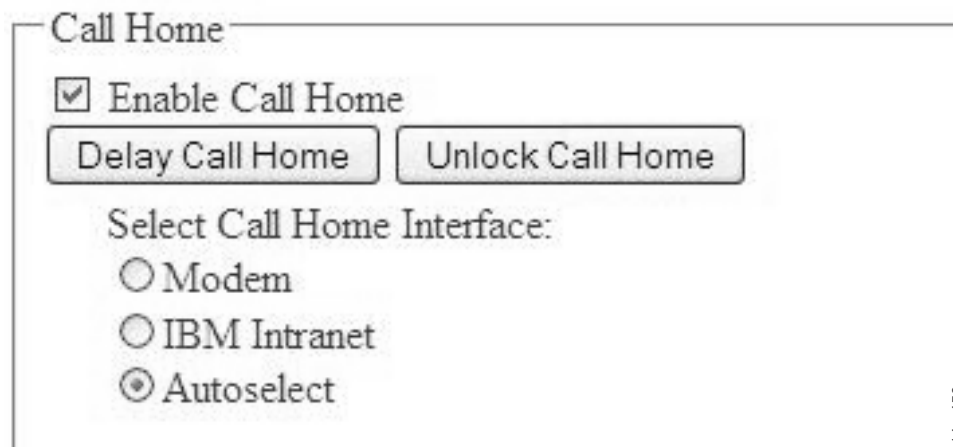

Figure 2-88. Unlock Call Home
- If ECC has been locked due to too many failed tries, you can clear the lock by clicking the "Unlock Call Home" button as shown in Figure 2-88.